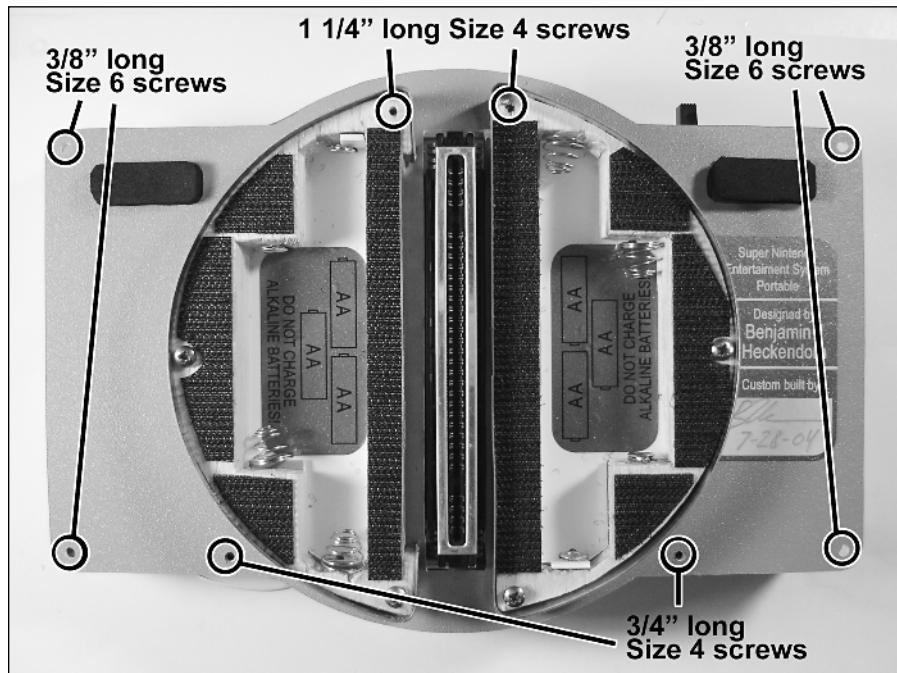

FIGURE 10-43: Which screws to use for the final assembly.
1. Insert the final screws through the back of the rear plate to secure the unit, as shown in Figure 10-43.